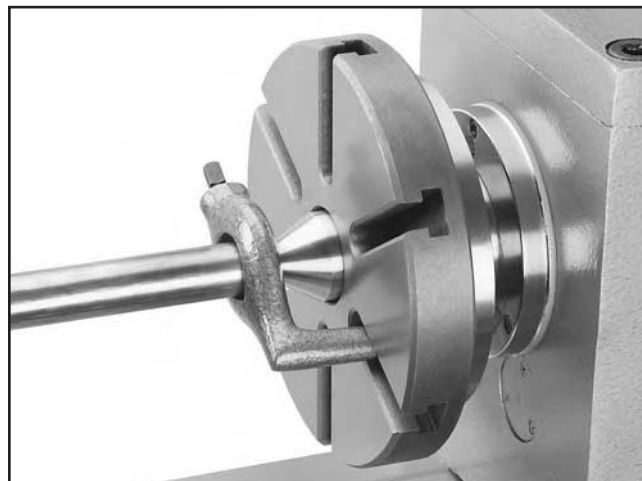

Figure 50. Generic picture of using the dead center with a faceplate and lathe dog.
3. Slide a lathe dog onto the workpiece with the foot pointing toward the spindle (see **Figure 50** for an example).